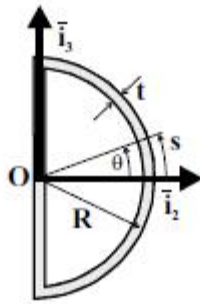

Fig. 8.57. Thin-walled closed semi-circular section.
A beam with the closed semi-circular thin-walled cross-section shown in fig. 8.57 is subjected to a vertical shear force, V_3 , with a line action passing through the section's vertical web. (1) Determine the location of the section's shear center. (2) Determine the shear flow distribution due to shearing. (3) Determine the shear flow distribution due to torsion. (4) Determine the total shear flow distribution.